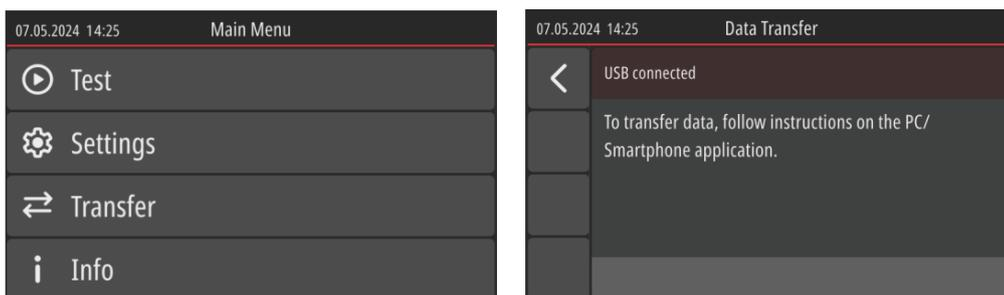

Figure 51: Main Menu (left figure) and Data Transfer mode (right figure)
- Set the Tester to Main Menu, see the left side of the Figure 51.
- Select “Transfer” option ⇒ ECT-752 will turn to “Data Transfer” mode, see the right side of the Figure 51.